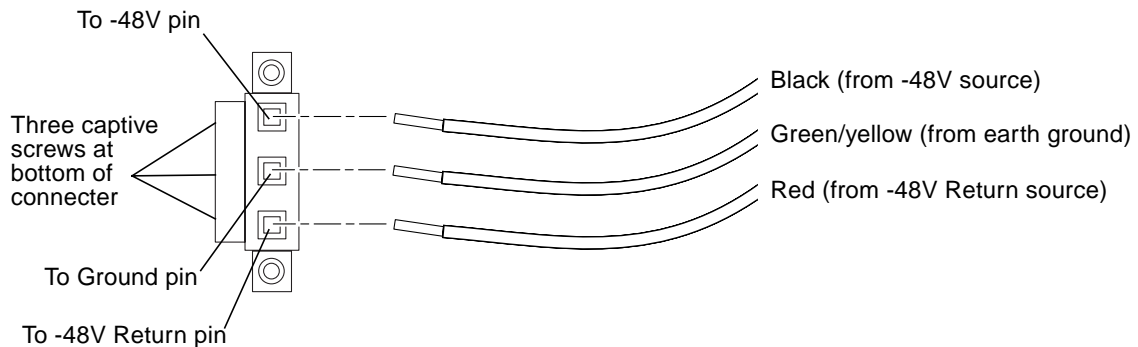

FIGURE 2-5 Assembling the DC Power Cable
5. Feed the exposed section of each wire into the appropriate hole in the DC plug connector (FIGURE 2-5).